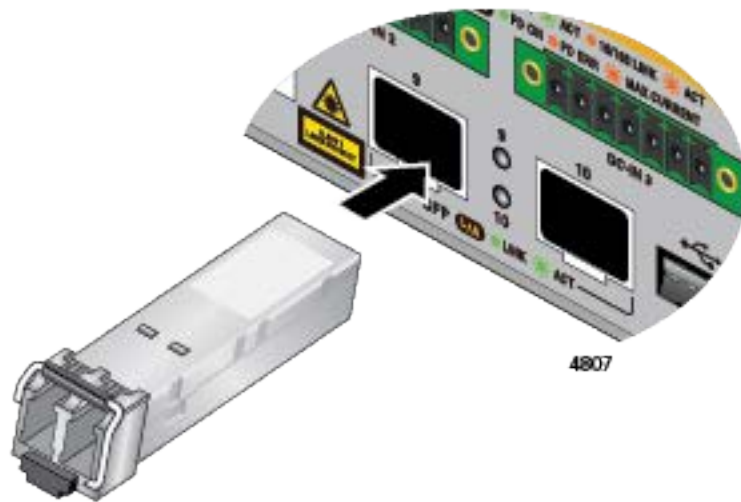

Figure 58. Installing an SFP Transceiver
3. To install the transceiver, position the transceiver with the Allied Telesis label facing up. Refer to Figure 58 on page 121.